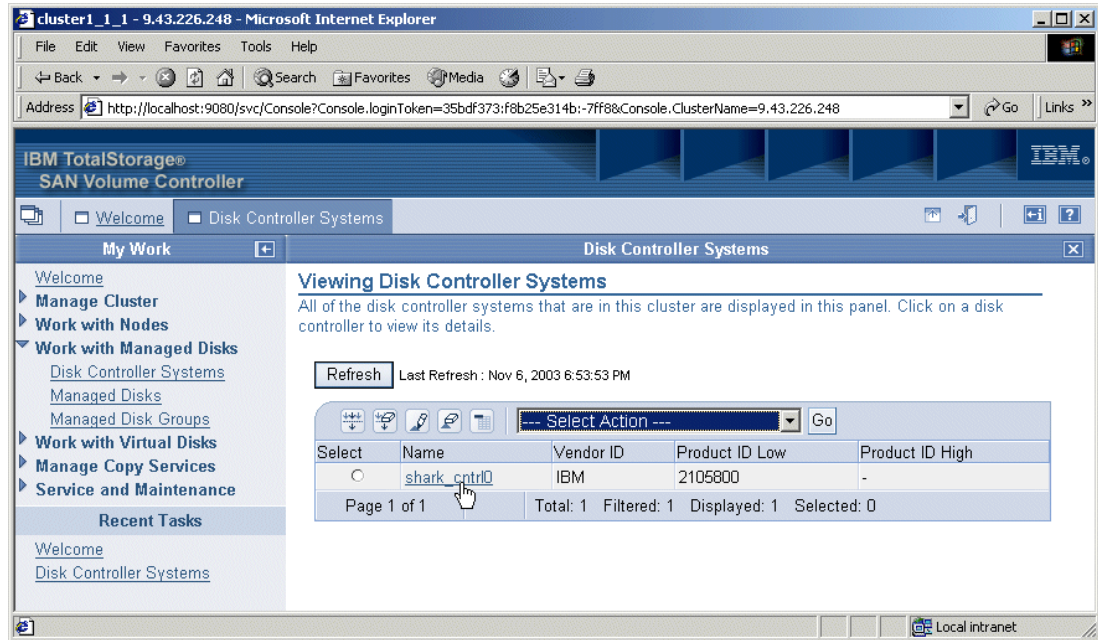

Figure 9-26 Disk controller systems
2. The Viewing Disk Controller Systems panel (Figure 9-26) opens. For more detailed information about a specific controller, click its **ID** (highlighted by the mouse cursor in Figure 9-26).